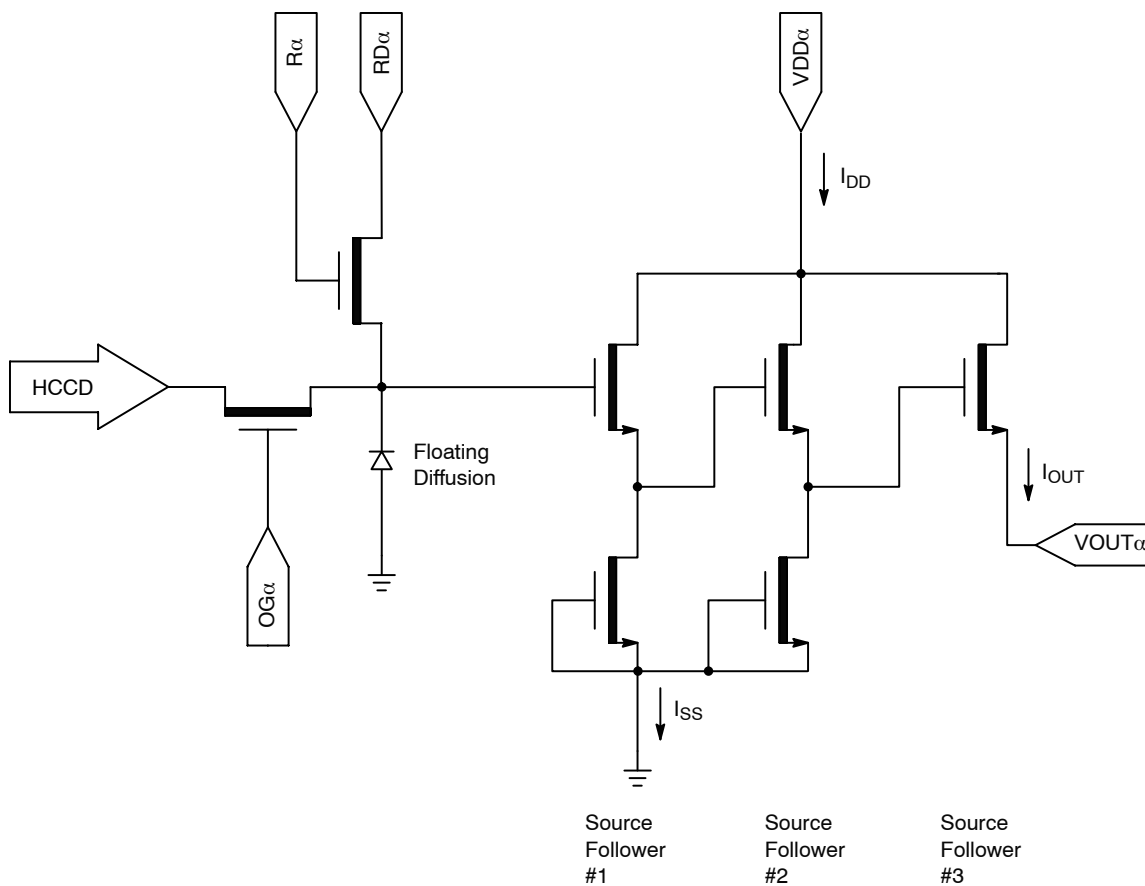

Figure 16. Output Amplifier
- The maximum DC current is for one output. $I_{DD} = I_{OUT} + I_{SS}$. See Figure 16.